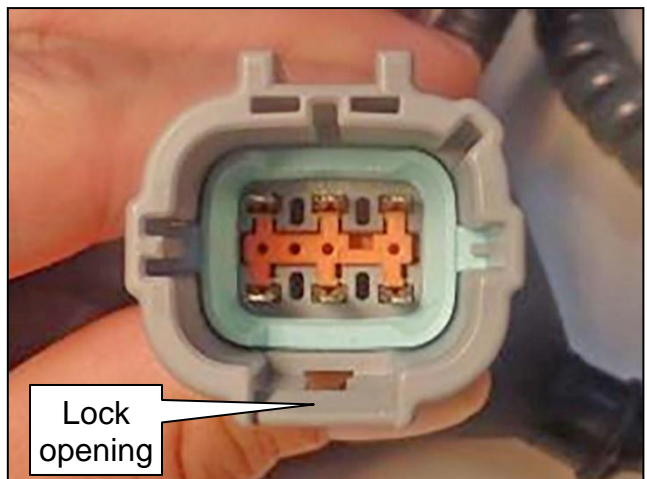

Figure 15
- To keep the orientation of the inside connector consistent, hold it with the lock opening at the bottom (Figure 15).